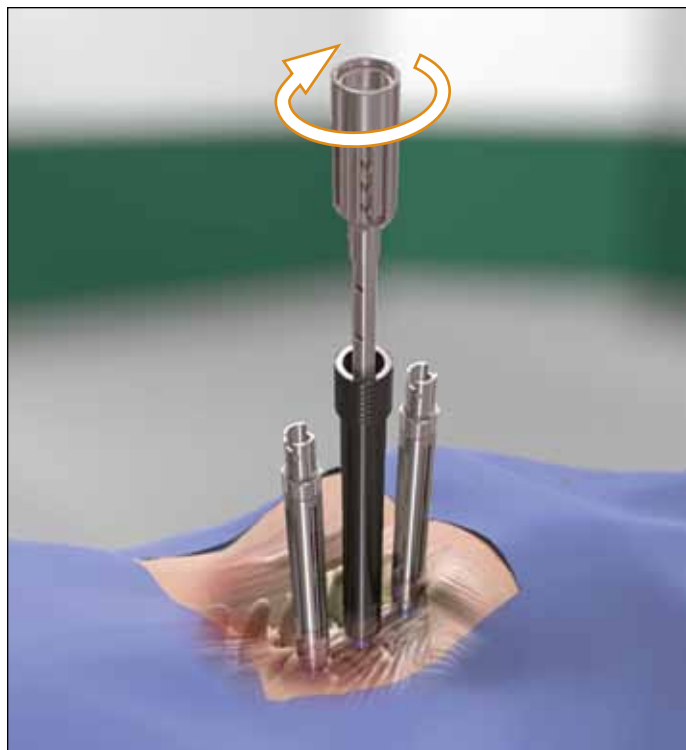

FIG. 32
- Provisionally tighten the Set Screw. **(FIG. 32)**